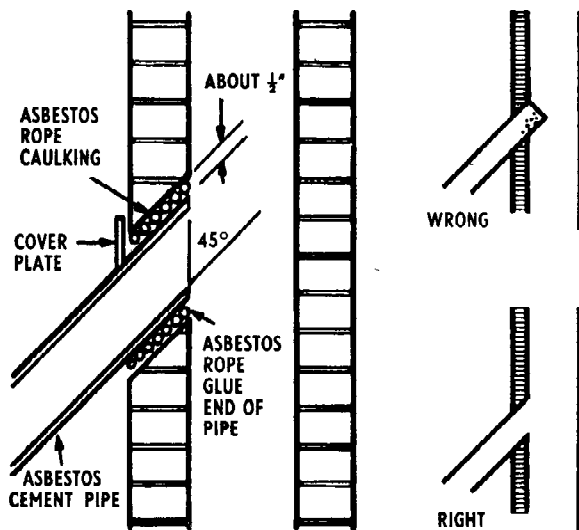

Figure 7
**Connecting the Chimney** Connect the flue outlet of the boiler to the chimney in accordance with building regulations (see Fig. 7). The connection pipe should have an accessible cleaning door. A flue break is incorporated in the boiler.